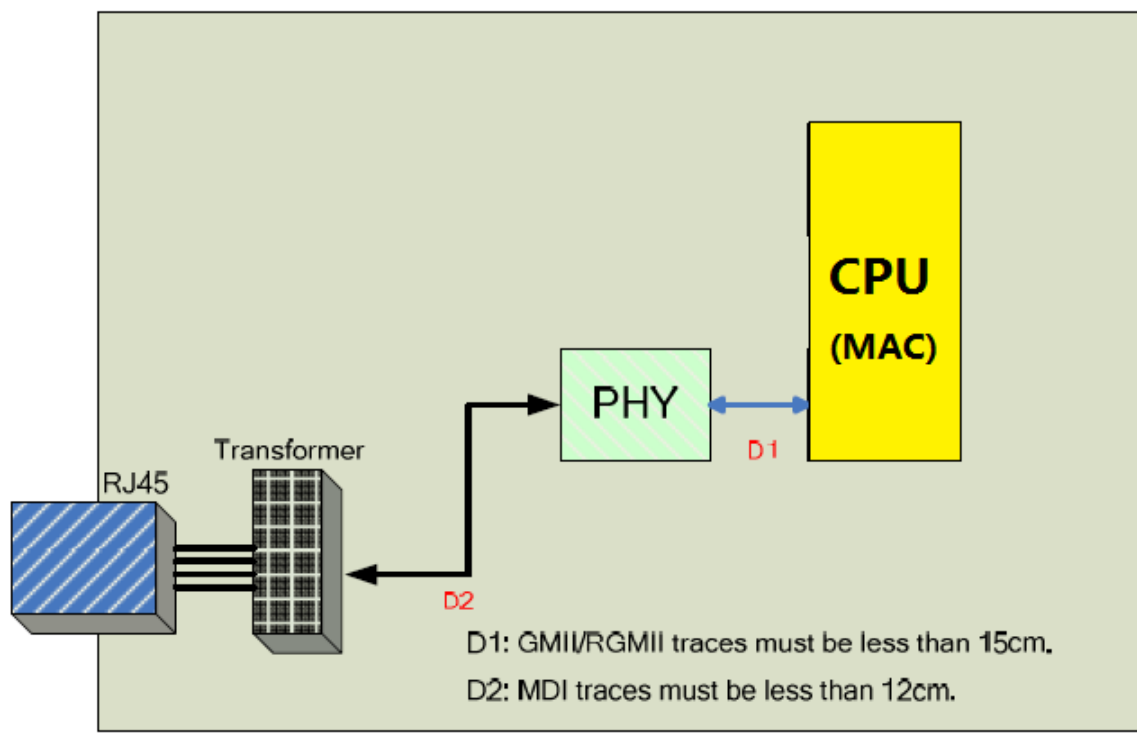

Figure 21-9
- RJ45 had better be placed close to PHY, which means MDI signals traces should be as short as possible which must less than 12cm, shown as Figure 21-9.